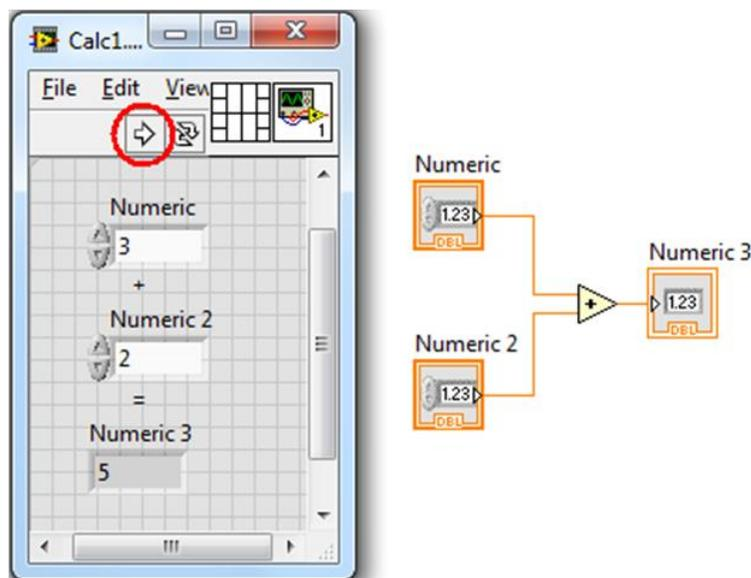

Figure 1.3; Calculator A; front panel (left) and block diagram (right)
1.2 A. Your first challenge will be to build a simple calculator to add two numbers – this is only intended to show you how to start programming! Start by building your user interface – this should have two numeric inputs for the numbers, and an output to display the result (fig 1.3).
- Add some numerical controls for inputting the numbers. In figure 1.3 I chose *Modern » Numeric » Numeric Control*, but there are other options! Click on your chosen control, then click on the Front Panel where you want to place it. Add a second control for the second number.
- Open the functions palette and choose *Programming » Numeric » Add* (the triangle shown in figure 1.3) and place on the block diagram.
- Wire the second numerical input to the *Add*. Wire the output of the *Add* to the numerical indicator, as shown in figure 1.3.